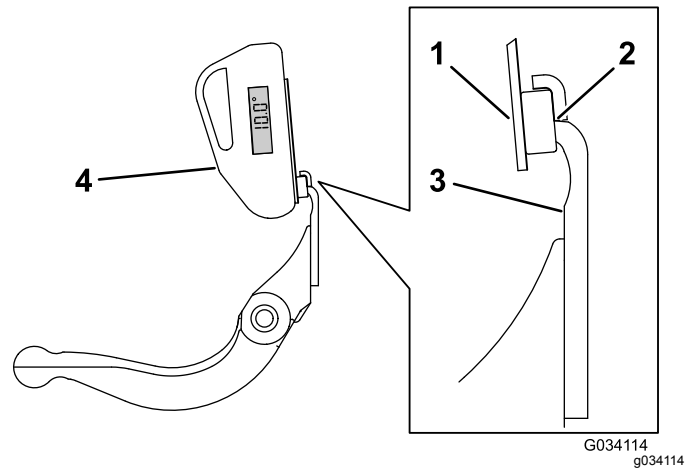

**Figure 24**
1. Place the angle indicator on the bottom side of the bedknife as shown in Figure 24.